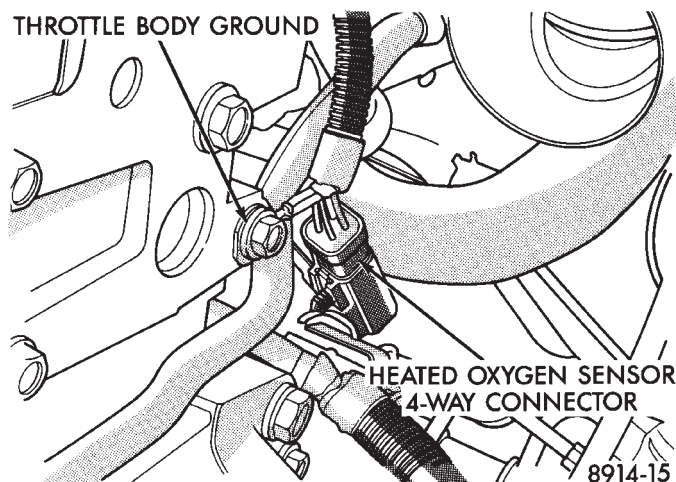

Fig. 26 Heated Oxygen Sensor Electrical Connection
(32) Verify oxygen sensor electrical connector is attached to the sensor (Fig. 26).